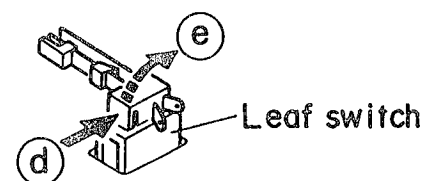

Fig. 2 - 20
■ Pinch roller assembly (Fig. 2 - 21)
1. Pull out the stopper protruding from the base assembly in the direction of the arrow ① to remove it from the pinch roller assembly.
2. Then, pull out the pinch roller assembly in the direction of the arrow ②.